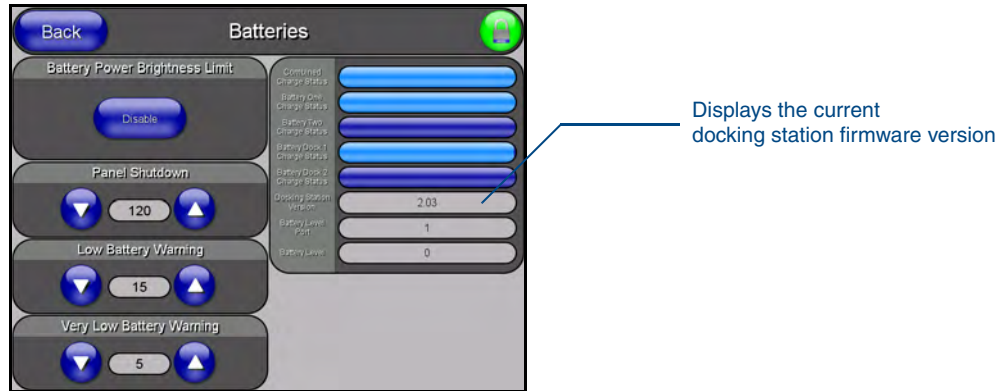

FIG. 2 Batteries page
3. Press the **Batteries** button to open the Batteries page (FIG. 2).